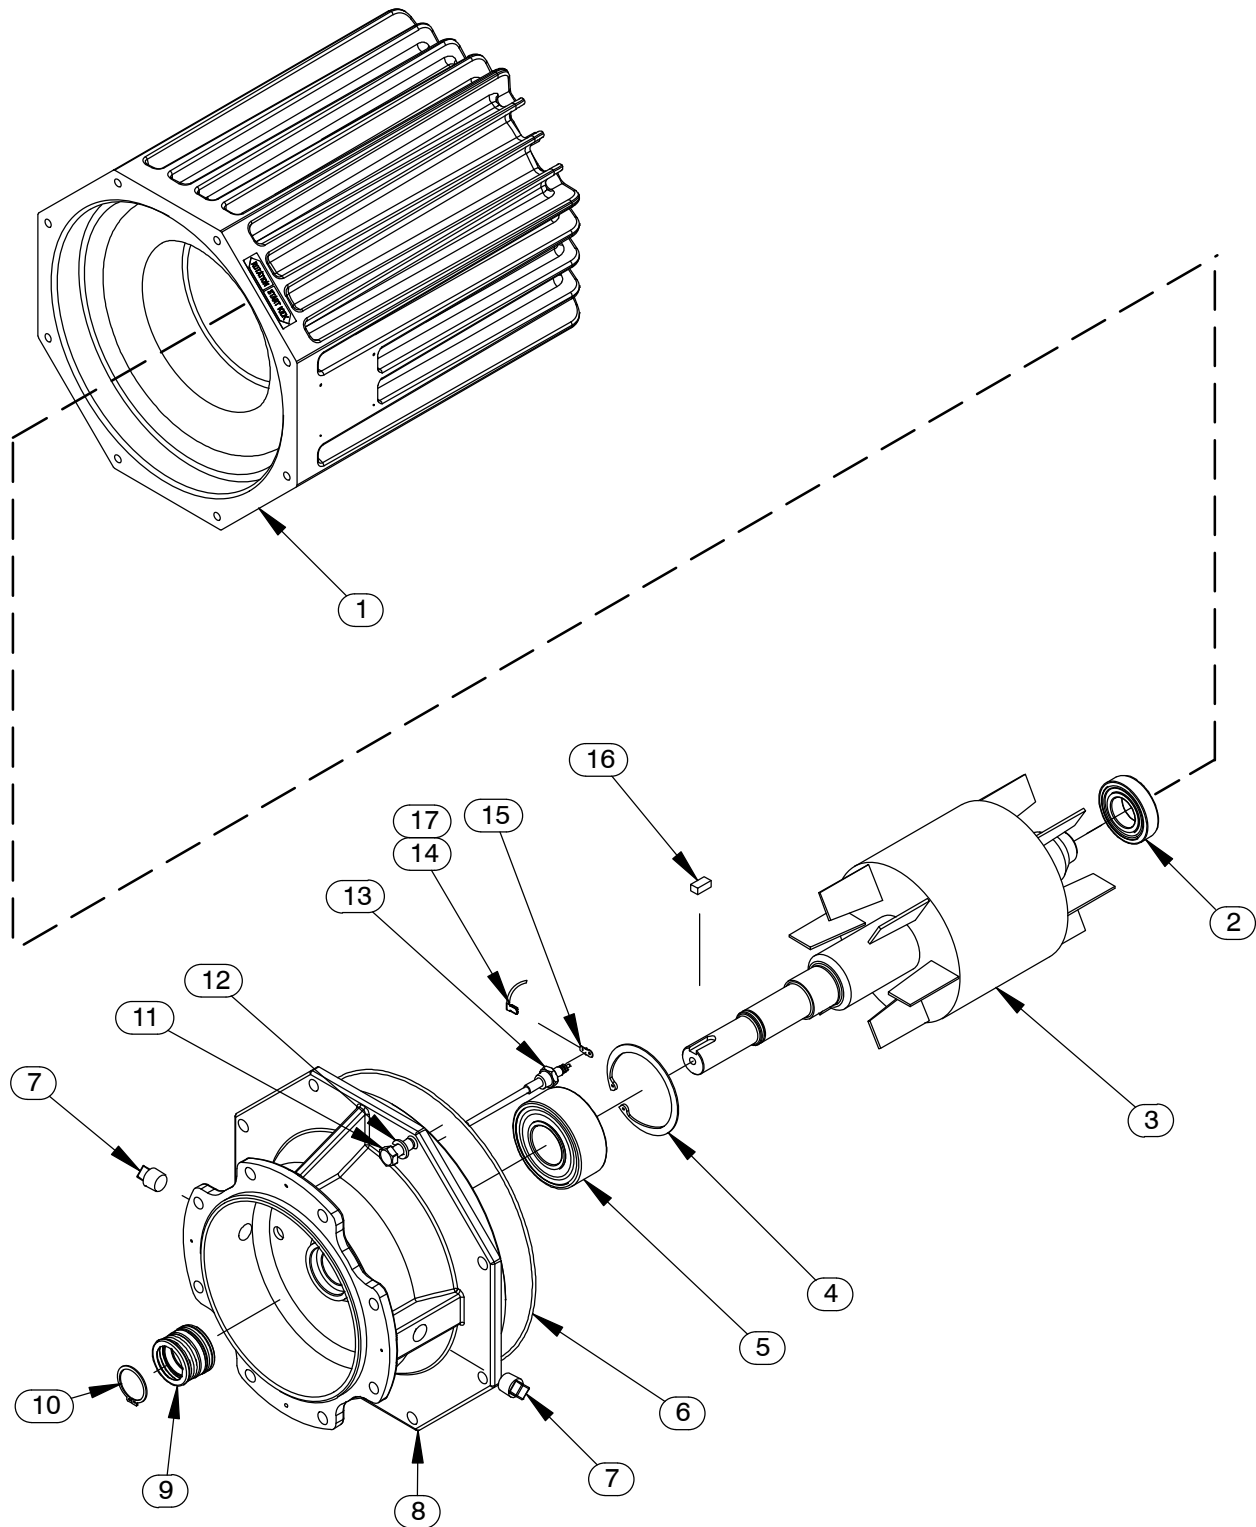

Figure E-2. Motor Assemblies
(Figure E-2)
To remove the impeller, use two thin-bladed screwdrivers positioned 180° apart to pry on the back of the impeller and “walk” the impeller off the shaft. Use increasingly larger screwdrivers (or wedges) as necessary. After the impeller comes free of the shaft, retain the impeller key (16, Figure E-2).
An alternate method of removing the stationary element is to remove the screws (18) securing the seal plate (20) to the motor assembly (12). Pry the assembled seal plate and stationary element off the shoulder of the intermediate (8, Figure E-2). Remove the O-ring (9) and press the stationary element and seat out of the seal plate from the back side.
(Figures E-2 and E-3)